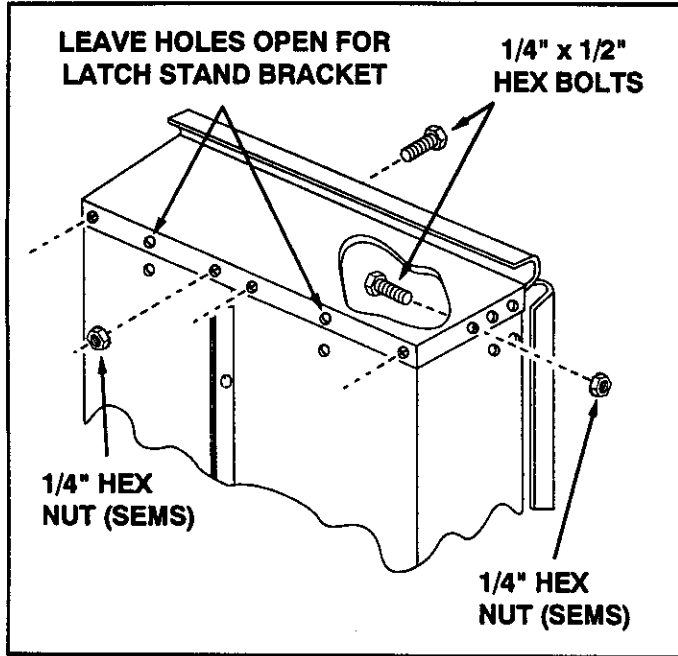

FIGURE 4
- Assemble the front panel over the end of the cart using six 1/4" x 1/2" hex bolts and 1/4" hex nuts (SEMS) as shown in figure 4. Leave two holes open in the bottom of the panel as shown in figure 4. With the cart body halves pulled together, **tighten** the four bolts in the bottom of the front panel, then **tighten** the bolt in each side.